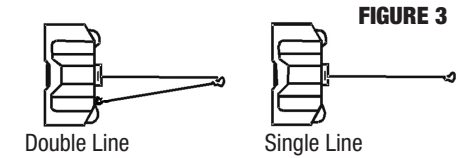

FIGURE 4
- 8. USE HEAVY LEATHER GLOVES** when handling wire rope. **DO NOT LET WIRE ROPE SLIDE THROUGH YOUR GLOVED OR UNGLOVED HANDS. ALWAYS USE THE HAND-SAVER STRAP** when guiding the wire rope in or out (Figure 4).